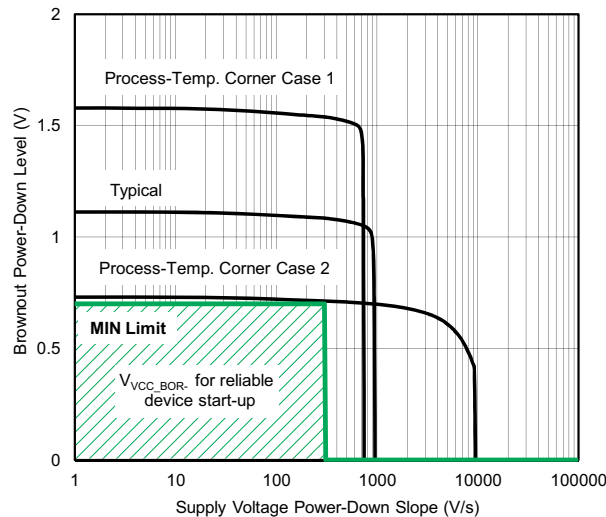

Figure 5-6. Brownout Power-Down Level vs Supply Voltage Down Slope
- (1) In case of a supply voltage brownout scenario, the device supply voltages need to ramp down to the specified brownout power-down level V_{VCC_BOR-} before the voltage is ramped up again to ensure a reliable device start-up and performance according to the data sheet including the correct operation of the on-chip SVS module.
- (2) Fast supply voltage changes can trigger a BOR reset even within the recommended supply voltage range. To avoid unwanted BOR resets, the supply voltage must change by less than 0.05 V per microsecond ($\pm 0.05 \text{ V}/\mu\text{s}$). Following the data sheet recommendation for capacitor C_{DVCC} should limit the slopes accordingly.
- (3) The brownout levels are measured with a slowly changing supply. With faster slopes the MIN level required to reset the device properly can decrease to 0 V. Use the graph in Figure 5-6 to estimate the V_{VCC_BOR-} level based on the down slope of the supply voltage. After removing VCC the down slope can be estimated based on the current consumption and the capacitance on DVCC: $dV/dt = I/C$ with dV/dt : slope, I: current, C: capacitance.
- (4) The brownout levels are measured with a slowly changing supply.